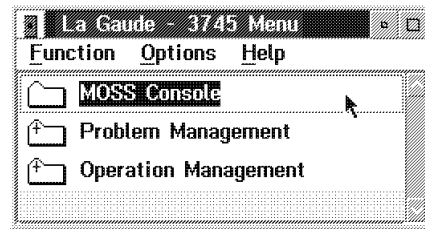

Figure 7-1. 3745 Menu
- c. ____ Double click on **MOSS Console**. (see Figure 7-1 on page 7-3)